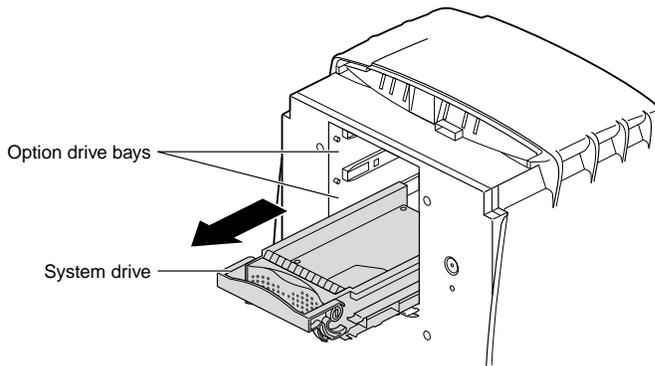

Figure 7-16 Removing the System Drive
3. Pull the system drive out of your workstation, as shown in Figure 7-16.